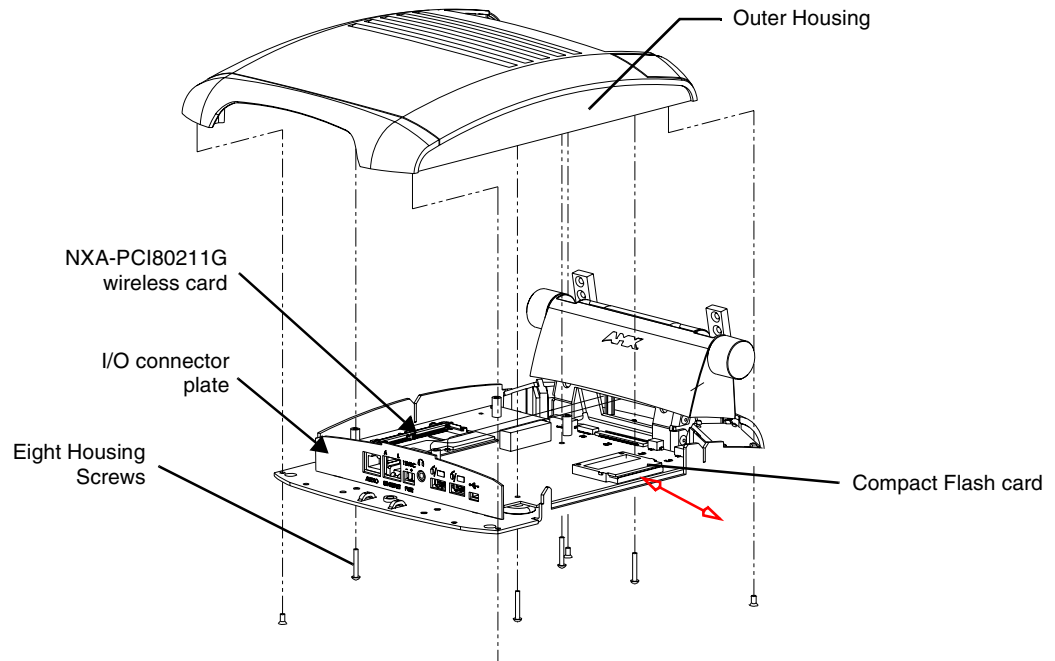
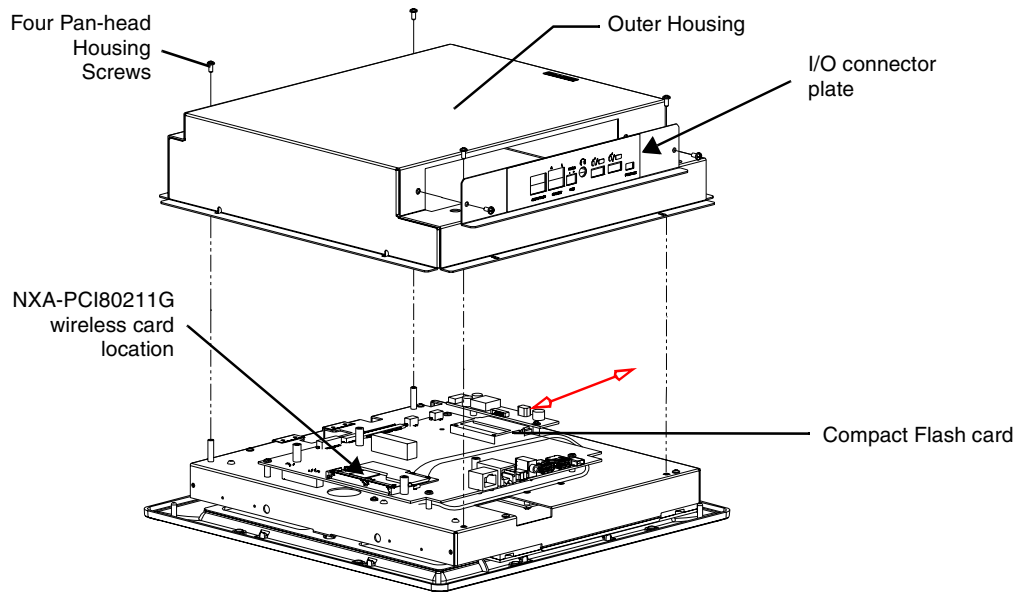

FIG. 20 Location of the Compact Flash card and I/O plate on NXT
FIG. 23 Location of the Compact Flash card and I/O plate on NXD
1. Discharge any static electricity from your body by touching a grounded metal object and then locate the existing Compact Flash card (*factory-shipped with 128 MB*) on the main board (FIG. 20 for Table Top panels and FIG. 23 for Wall Mount panels).
1. Obtain the I/O connector plate and slide it back into position (FIG. 20).